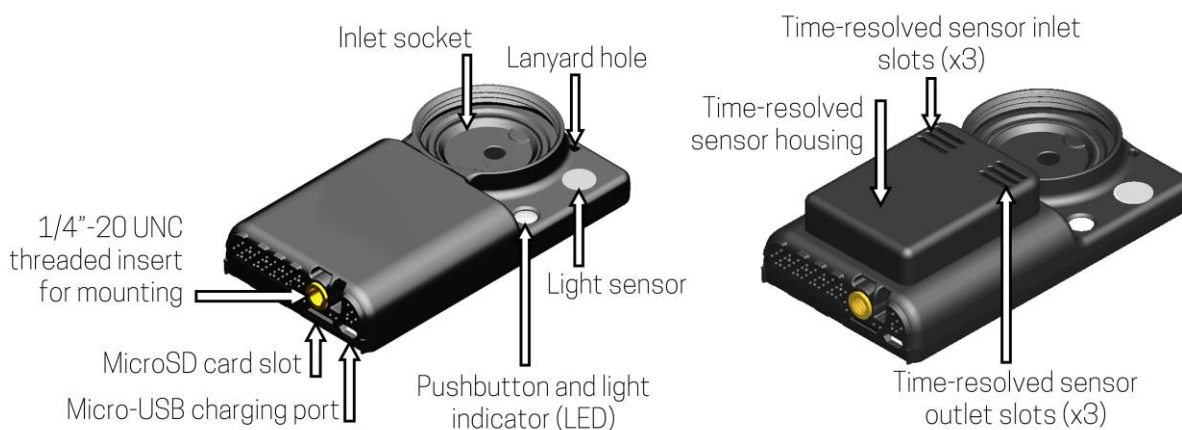

Figure 2. UPAS v2.1 (left) and UPAS v2.1 PLUS (right) with key components identified.
The UPAS v2.1 and the UPAS v2.1 PLUS have many common features (**Figure 2**, left). Both measure particulate matter air pollution by sampling air at a regulated flow rate through a size-selective inlet onto a 37- or 25-mm-diameter filter. To collect a filter sample of PM using the UPAS, the user must install a size-selective inlet and filter in the inlet socket as shown in **Figure 3**.
In addition to the core features included in the v2.1, the v2.1 PLUS (**Figure 2**, right) includes time-resolved sensors for particulate matter (Sensirion SPS30), CO₂ (Sensirion SCD41), total volatile organic compounds (Sensirion SGP41; qualitative), and NO_x (Sensirion SGP41; qualitative). On the UPAS v2.1 PLUS, the air flow path for the filter sample (air path 1) is independent of the air flow path for the time-resolved sensors (air path 2; see **Figure 3**). The UPAS v2.1 PLUS can operate and log data from the time-resolved sensors without collecting a filter sample. The air at the outlet of path 1 has been filtered by the filter sample media. No filtering occurs in path 2. Make sure all inlets and outlets remain unblocked during sampling.
Before powering-on the UPAS, ensure that a UPAS-compatible microSD card is installed in the slot on the bottom of the UPAS (**Figure 2**). To install a microSD card in the UPAS:
- 2 Insert the microSD card into the slot on the bottom of the UPAS (under the threaded mounting hole; see **Figure 2**). The gold metal tabs on the microSD card face the back of the UPAS. The microSD card will not insert all the way or snap into place if it is upside down or backwards.